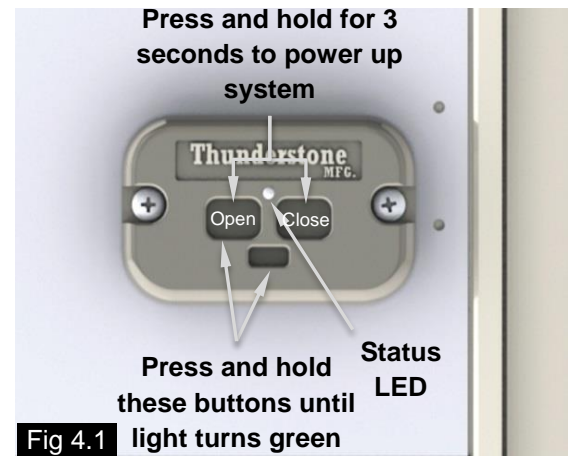

Fig 4.1
3. Turn the trailer keypad on by pressing and holding the two large buttons “**Open**” and “**Close**” for approximately 3 seconds or until the status LED and the two large buttons illuminate. See figure 4.1
4. Press and hold the program button (small button) and the “**Open**” button simultaneously until the status LED turns solid green then release both buttons. The LED will then flash orange rapidly which indicates it is ready to receive remote programming. See figure 4.1